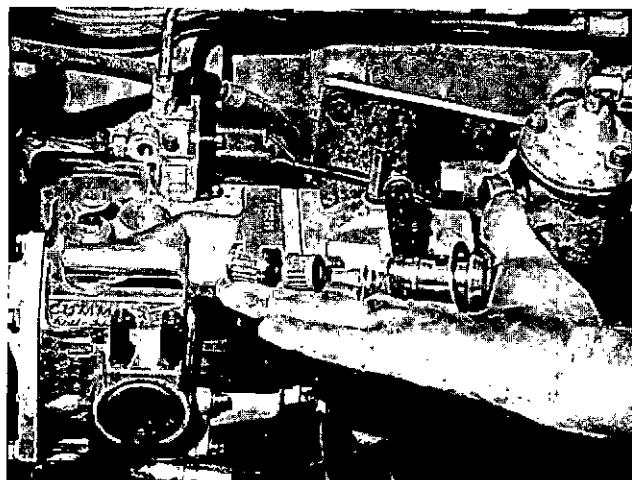

Fig. 5-34. Fuel pump screens — PT (type G) fuel pump with MVS governor
1. Remove filter cap and dynaseal from governor housing. See Fig. 5-34.